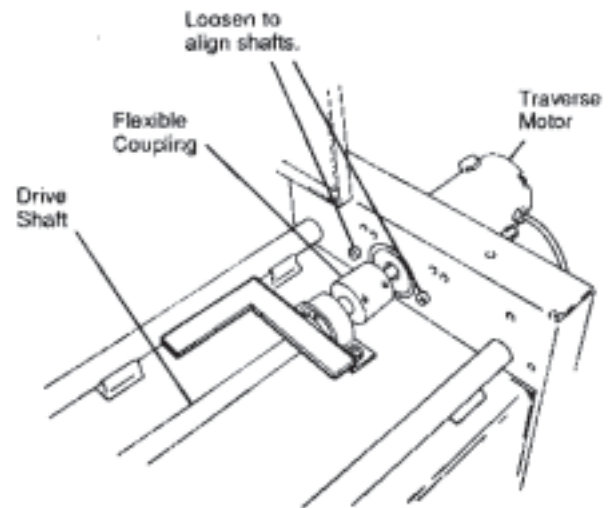

FIG. 26
6. Check that the bearing load block is at 90° to the drive shaft (within +/- 1/4 degree). Use a precision square held against the bearing shoulder and the rear rail, as in FIG. 26.